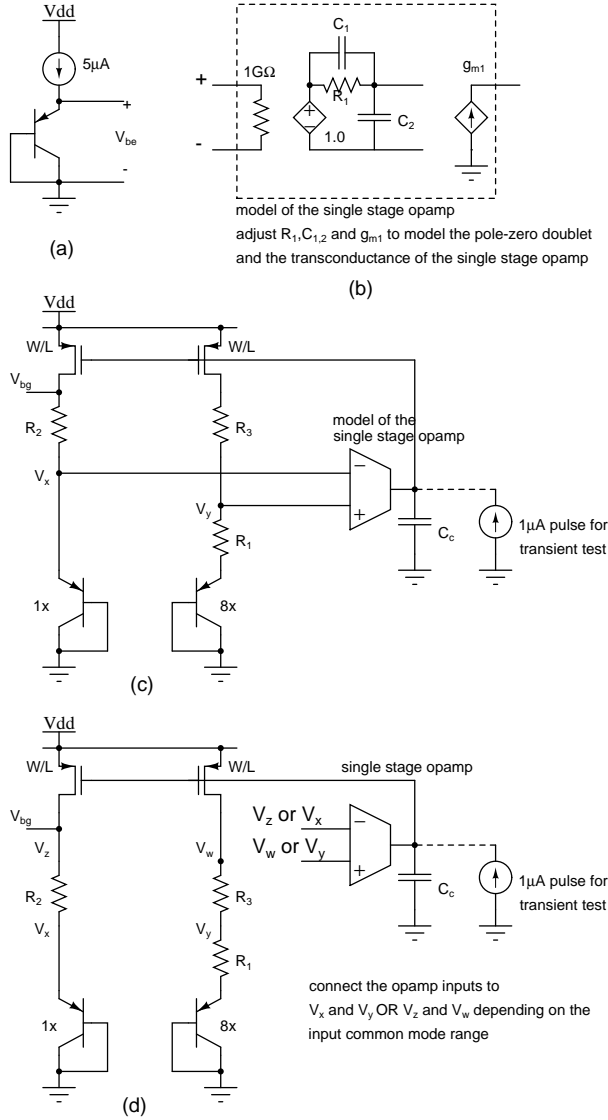

Figure 2: Bandgap reference
2. **Bandgap reference:** Bias a 1x sized diode connected PNP¹ at $5\mu A$ as shown in Fig. 2(a) and sweep the temperature from 0 to $100^\circ C$. Determine dV_{BE}/dT at $27^\circ C$.
Design the bandgap shown in Fig. 2(c). Choose R_1 for a quiescent current of $5\mu A$ and R_2 to get zero temperature coefficient at V_{bg} . Choose $R_3 = R_2$. What is the role of R_3 ? Simulate the bandgap reference with the model of a single stage opamp assuming that the single stage opamp is made like the first stage of the previous problem. (Fig. 2(b)-model the gm, and the pole zero doublet). Choose C_c for ringing $\leq 10\%$. Test the bandgap reference by sweeping the temperature from 0 to $100^\circ C$ and plot V_{bg} . Test the transient response by applying a $1\mu A$ pulse to the output of the opamp. Adjust the values of R_1 , R_2 , $R_3 (= R_2)$ if necessary to get zero TC at $27^\circ C$.
Modify the circuit as in Fig. 2(d). How should V_x , V_y , and V_{bg} change? What is the purpose of this modification? Resimulate with the opamp model as before and test the temperature sensitivity, transient response and the loop gain.
Use the model in Fig. 2(b) for the single stage opamp. Use a $50 \mu\text{A}$ quiescent current in M_1 . Adjust the width (with minimum length) of M_1 for a dropout of 300 mV with a 50 mA current. You can use a 1.2V voltage source in place of the bandgap reference. Compensate the loop using a load capacitor C_L for a phase margin of 45° at $I_L = 0$ and $I_L = 50 \text{ mA}$ and choose the higher one. Do the following (except the last one) for two cases ($I_L = 0$ and $I_L = 50 \text{ mA}$)—you can use a current source for the load):